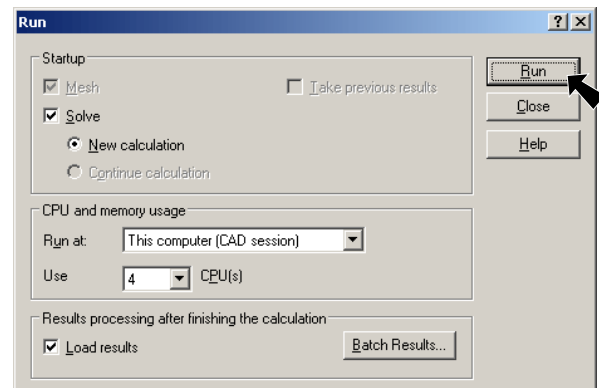

**Fig. 14**
Step 2. Click the **Flow Simulation** tab  in the Feature Manager, **Fig. 14**.
Step 4. Drag the edge of the Feature Manager to the right to expand, **Fig. 14**.
**Force (Y)**
**Force (Z)** **Fig. 14**